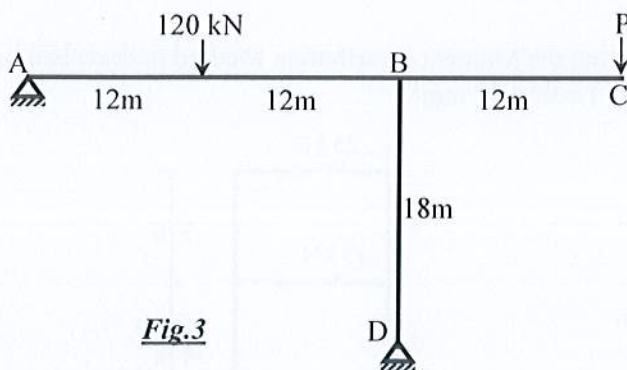

Fig.3
3. Analyze the frame in **Fig.3** using Force Method and find the Reactions, where P is 20kN, if the Roll is even or P is 30kN, if the Roll is odd. Consider the horizontal reaction at D as redundant. [E and I are constant] [12]